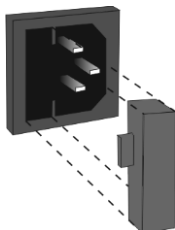

Figure 9. Fuse holder
- 9.3 **Fuse replacement.** Disconnect the power cable from the mains. Disconnect the power cable from the socket on the rear of the unit. Open the fuse holder, located near the socket (figure 9). Check and replace with a correct fuse, if necessary, see table below: